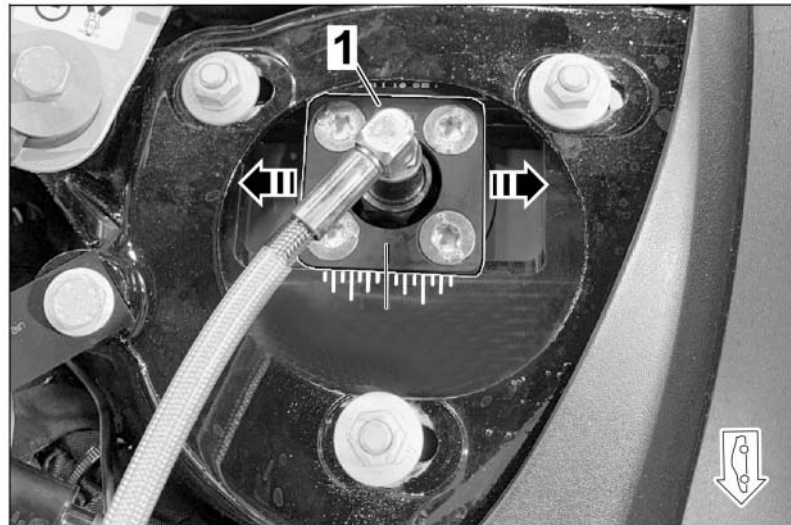

Figure 11
- 9. – Camber adjusting plate on the support bearing (⇒ *Figure 11-1-*) starting from the outer stop (minimum camber) is in position as shown ⇒ *Figure 11*. Tighten the four screws on the camber adjusting plate. **Screw: Tightening torque 25 Nm (18.4 ftlb.)**